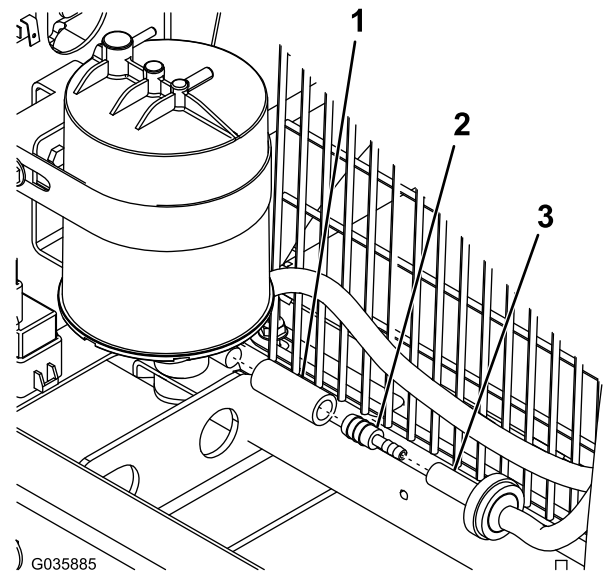

**Figure 6**
- Attach the pads to the fuel-tank straps (Figure 6).
- Secure the new fuel tank to the fuel-tank tray using the straps and 4 flange nuts (1/4 inch) as shown in Figure 6.